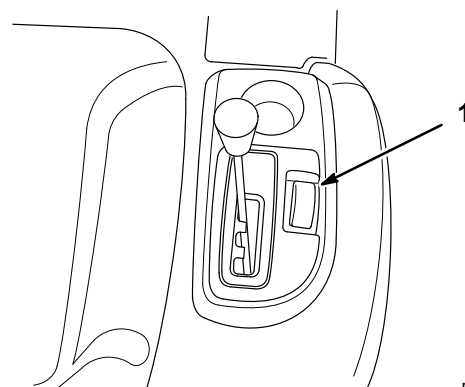

Figure 25
The cruise control is a switch (Fig. 25) on the right fender that maintains a set traction control position without foot pressure. The cruise control only operates when moving forward.
1. Begin driving the tractor; refer to Driving Forward or Backward, page 24. While holding your foot steady on the traction control pedal, push the cruise control switch (Fig. 25) to the "SET" position. This locks the traction control in position and your foot can then be removed from the traction control. A constant pedal position will be maintained.